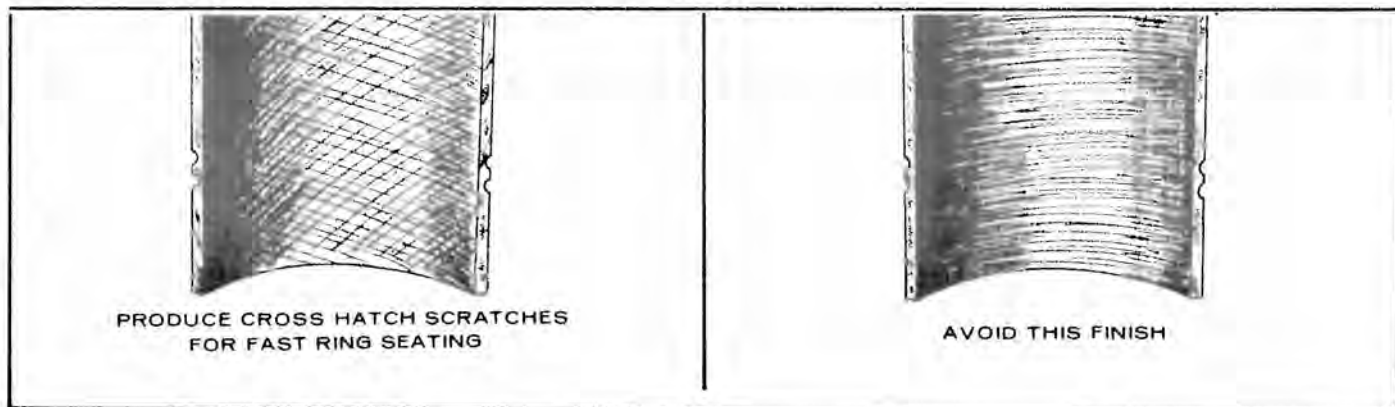

FIGURE 36. CROSSHATCHING
5. The crosshatch formed by the scratching of the stones should form an angle of 23°. This can be achieved by moving the hone up and down in the cylinder about 40 cycles per minute. (Figure 36)